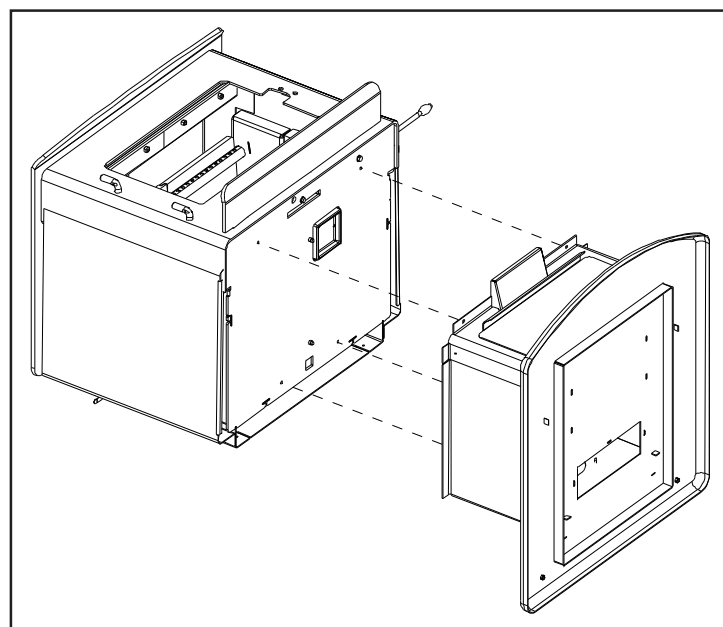

**Figure 14: Bolts to remove.**
**Note:** After the pedestal or legs and ash pan have been installed but before the bricks are installed, rivets (Figure 13) must be placed in the two (2) holes (shown in Figure 14) in the firebox that lag bolts came out of. This is done to make unit burn more efficiently.